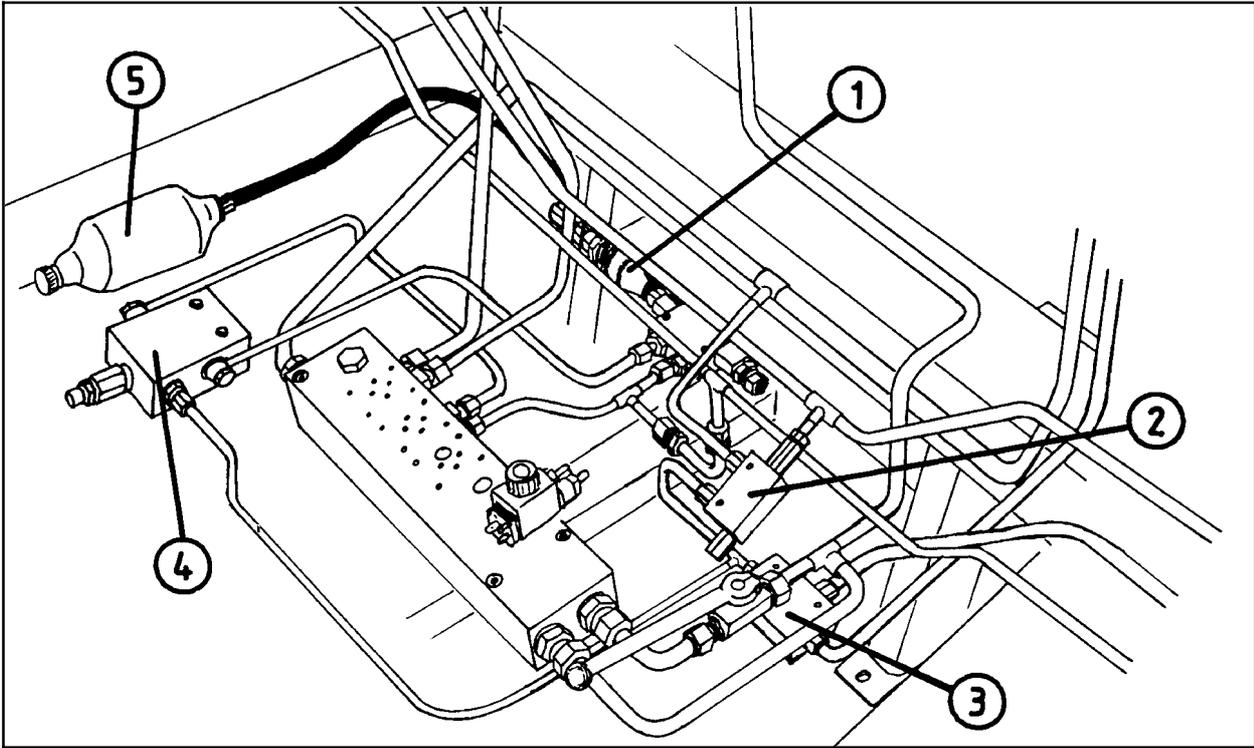

Fig. 15-1
15.0 AUTO WRAP 1504 EH. DESCRIPTION OF HYDRAULIC. (See fig. 15-1. Pos. no. = chapter no.)